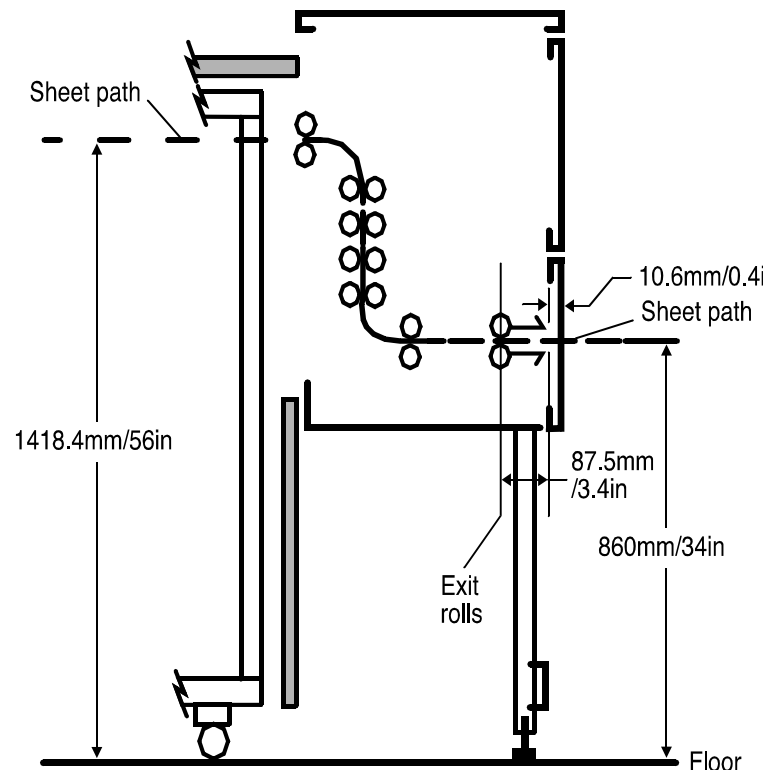

Figure 2-13. Bypass transport paper path (high volume printer configuration shown)
NOTE: *Systems configured with the external bypass transport can have a maximum of two (2) feeder/stacker modules. See figure 2-13.*